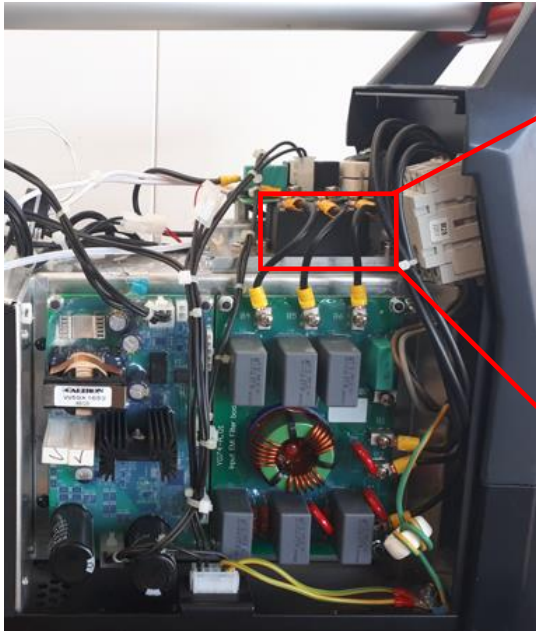

Figure 23
3. Locate the Input Rectifier Bridge. See **Figure 23**